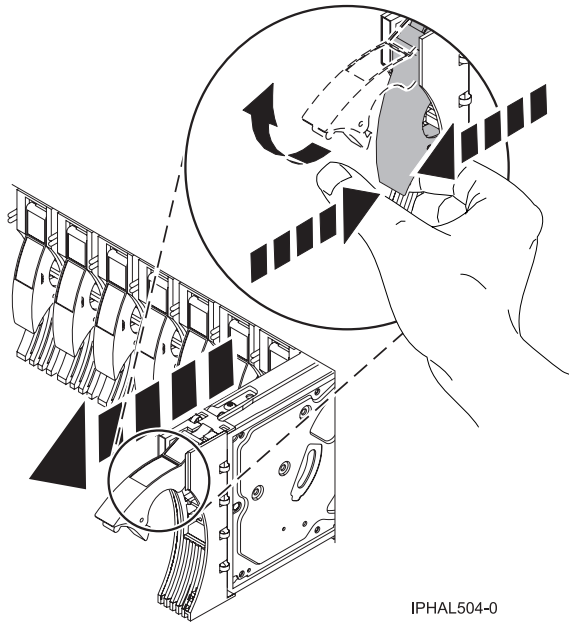

Figure 59. Removing a disk drive from a model or 7311-D20
8. Squeeze or lift the handle of the disk drive out toward you before you remove the disk drive, as shown in Figure 59 on page 75. If the handle is not all the way out, the disk drive can not slide out of the system or expansion unit.